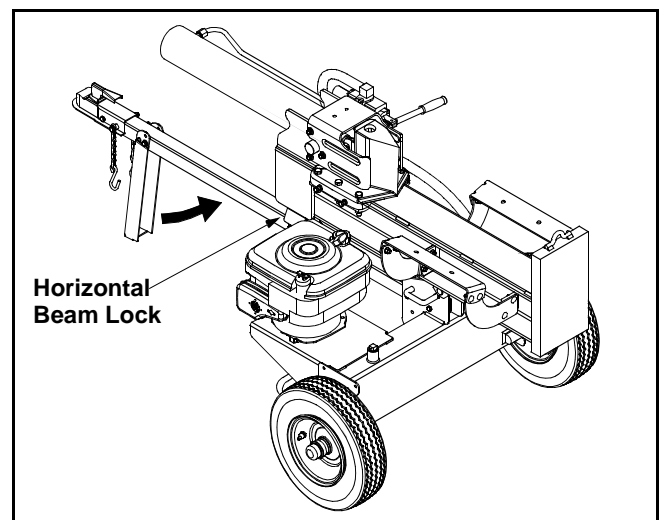

Figure 9
- The beam will lock automatically in horizontal position. See Figure 9.
- Remove the spring clip and clevis pin from jack stand. Support the tongue and pivot the jack stand up against the tongue. Secure with the spring clip and clevis pin previously removed. See Figure 9.